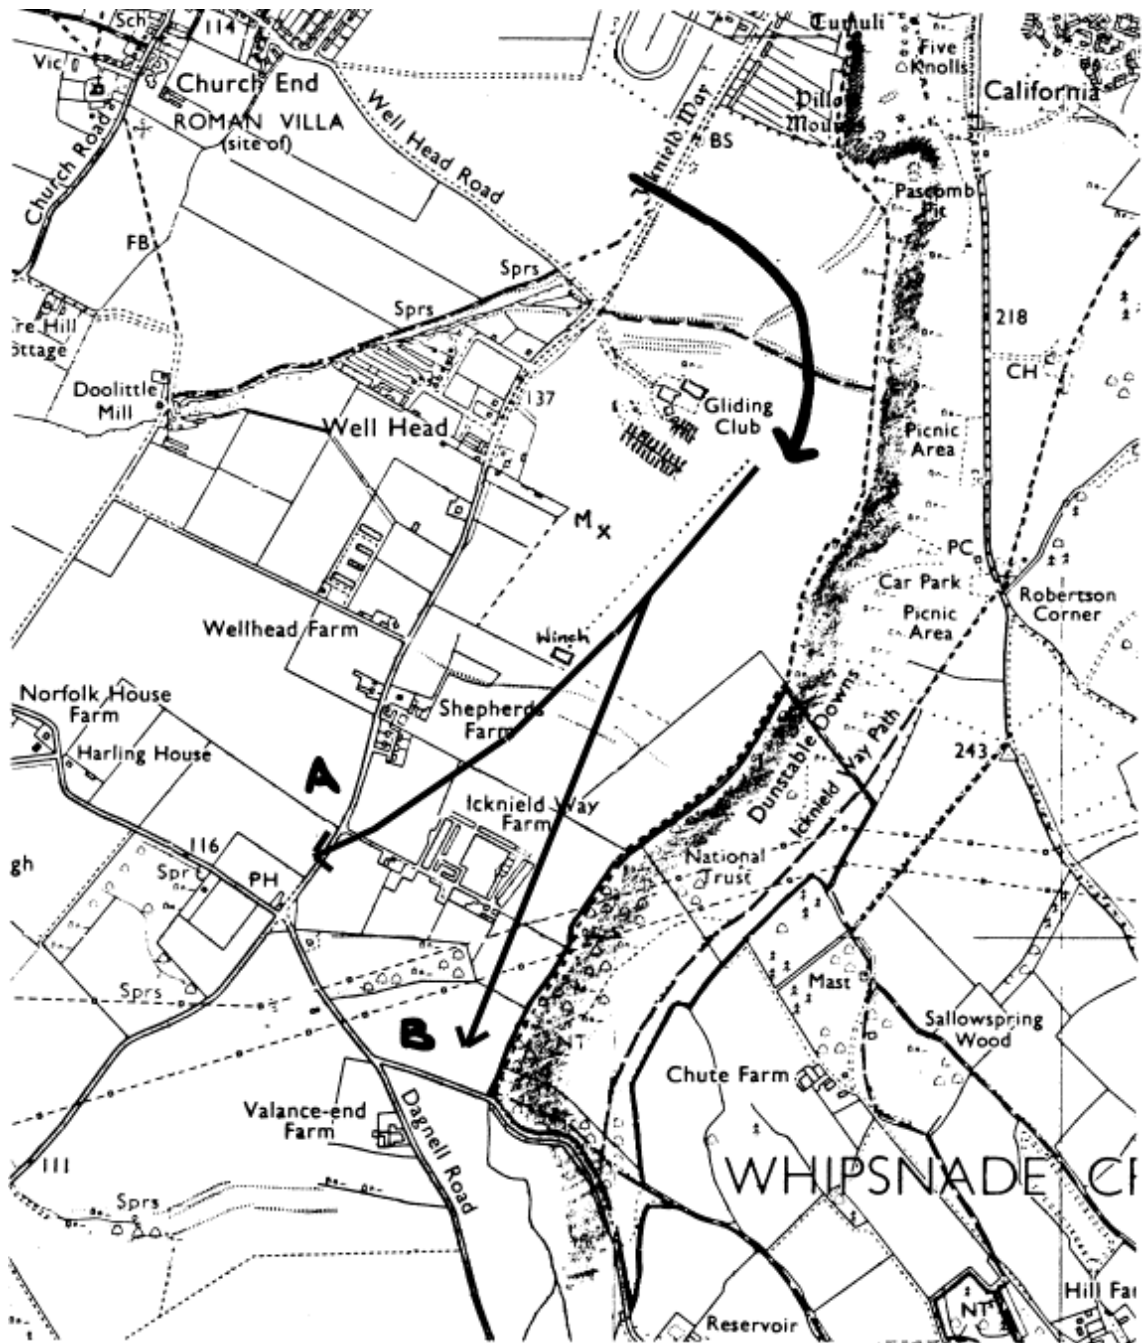

Figure 2
*Departure Routing.* There are two early route options, as shown in Figure 2, either between the farm buildings and the Tring Road, or between the farm buildings and the hill. Only if absolutely necessary should the old pig farm be overflowed. The second option requires adequate initial climb performance in order to comfortably clear the power wires, but usually results in a better climb gradient whenever the wind is blowing onto the hill. Do not overfly the winch and be aware that gliders or vehicles on the NE run landing area may not be visible from the launch point.